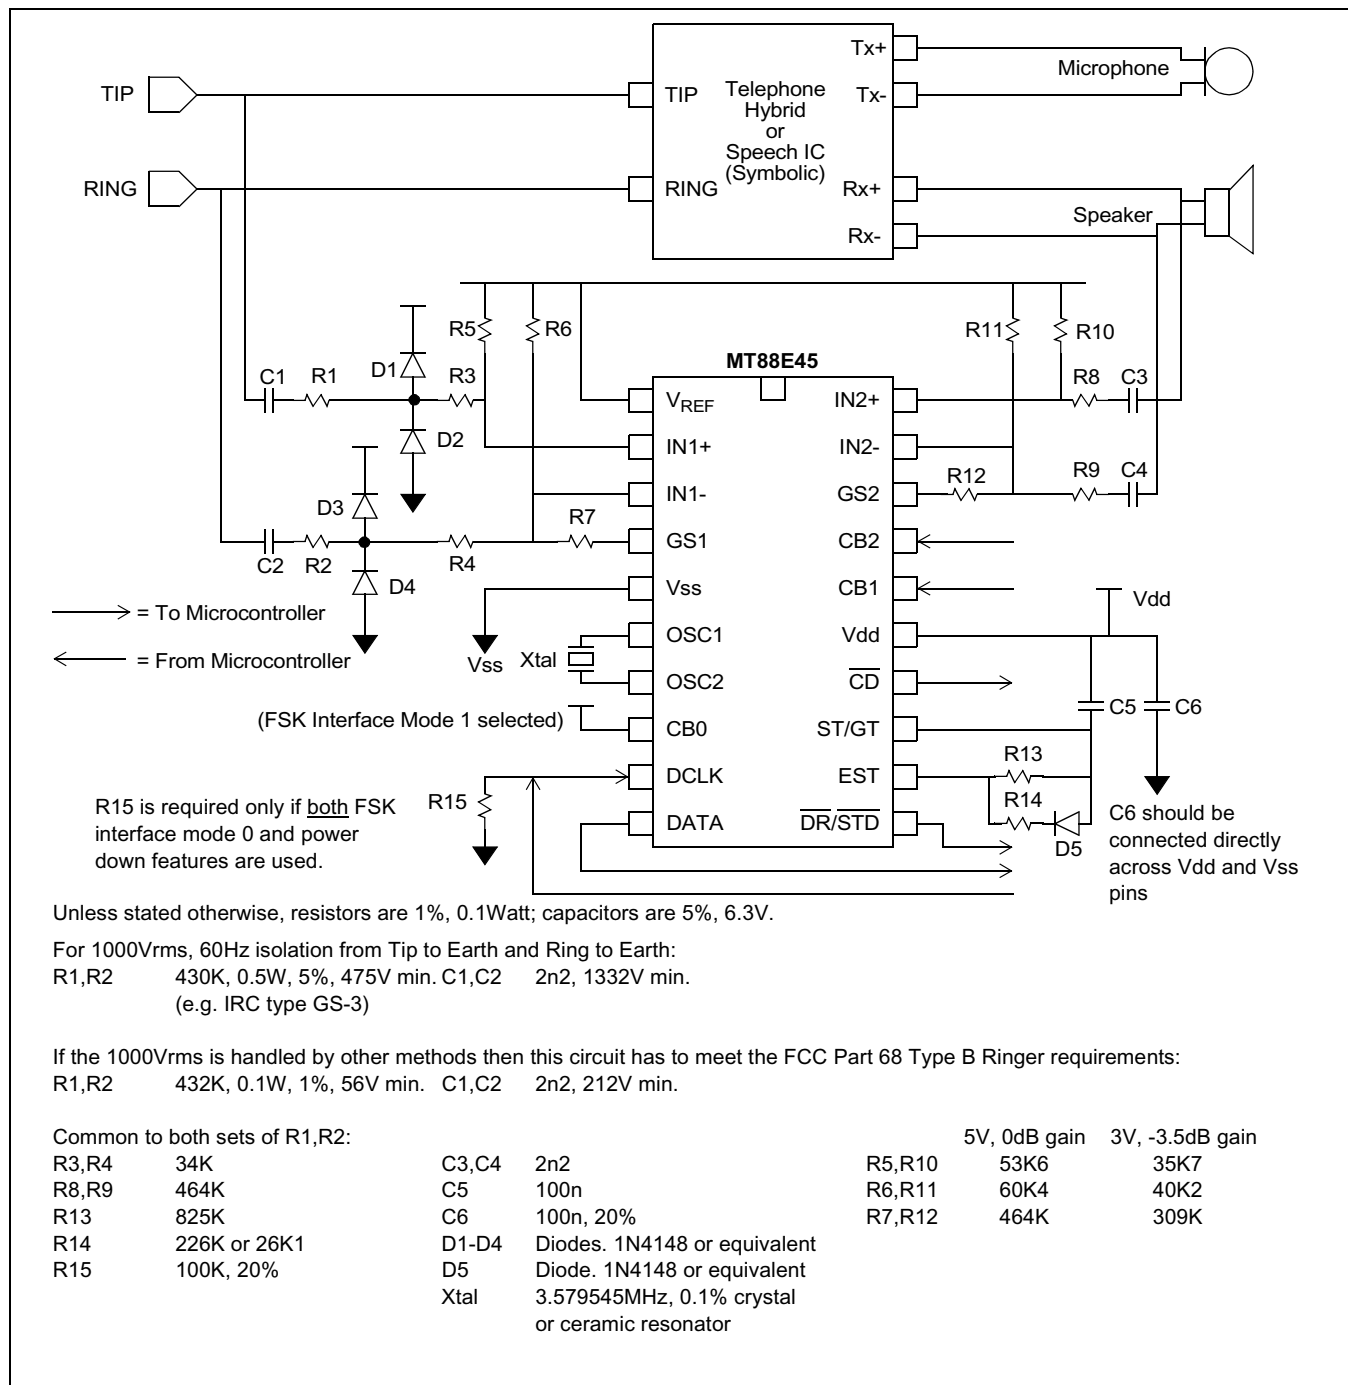

Figure 7 - Application Circuit: Bellcore MEI Compatible Type 2 Telephone
In power down mode both input op-amps, V_{REF} and the oscillator are non functional. DCLK becomes an input because to select the power down state CB0 is 1 which will select FSK interface mode 1. If the application uses FSK interface mode 0 and the MT88E45 needs to be powered down then a pull down resistor should be added at the DCLK pin to define its state during power down (R15 in Figure 7). When the MT88E45 is powered down DATA, $\overline{DR/STD}$, $\overline{CD}$ are high; EST and ST/GT are low.
- For the GS1 op-amp, start with the 0dB gain setting resistor values of $R5_{0dB}$, $R6_{0dB}$ and $R7_{0dB}$. In Figure 7 these values are 53K7, 60K4 and 464K respectively. Keep C1,C2,R1,R2,R3,R4 as in Figure 7 to maintain the highpass corner frequency constant for all gain settings.